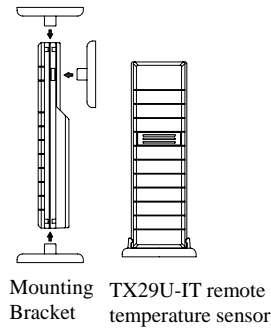

Figure 2
2. One remote temperature sensor with mounting bracket (Figure 2).